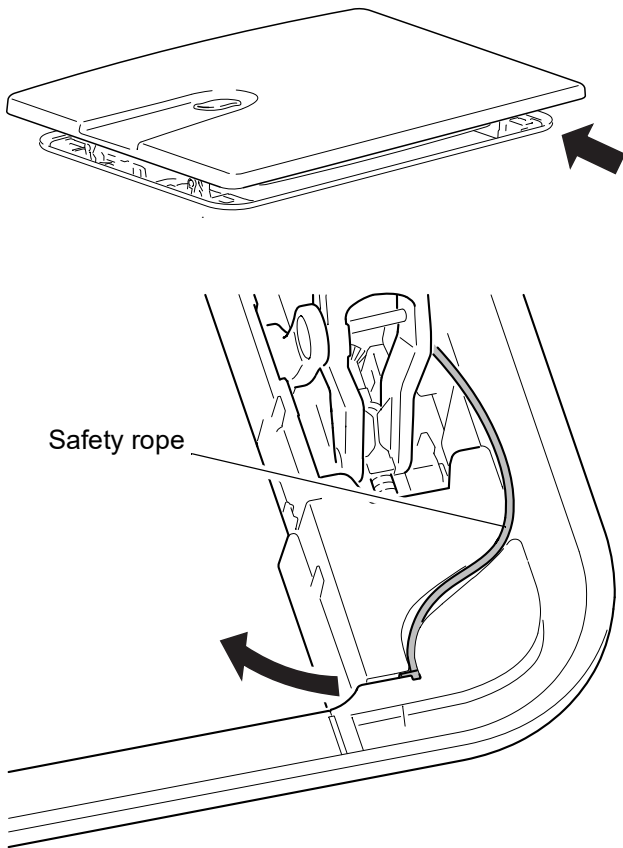

Fig. 804
- Turn the emergency opening lever (9) from the inside clockwise until the stop.
3. Unhook safety rope (Fig. 804) from its holder. Hold the hatch cover as close to the frame as possible to facilitate unhooking of the safety rope.
1. Hook in the safety rope (Fig. 804) into the holder.